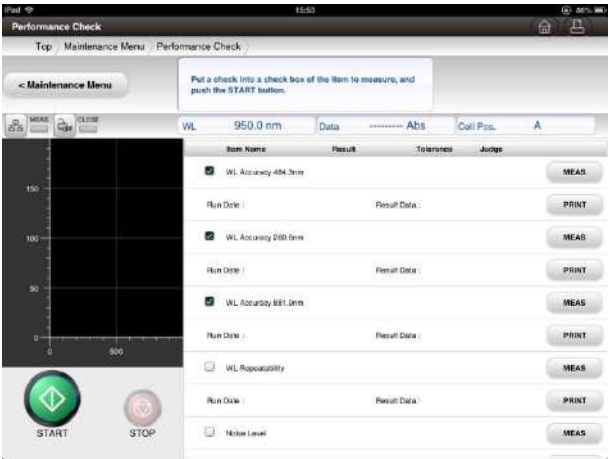

Fig. 6-3 Performance Check Screen
- (1) Display the Instrument Performance Check screen (Fig. 6-3). Press the  button on the right edge of the item name “WL accuracy 484.3 nm.” The Wavelength accuracy check of the selected Wavelength is performed.